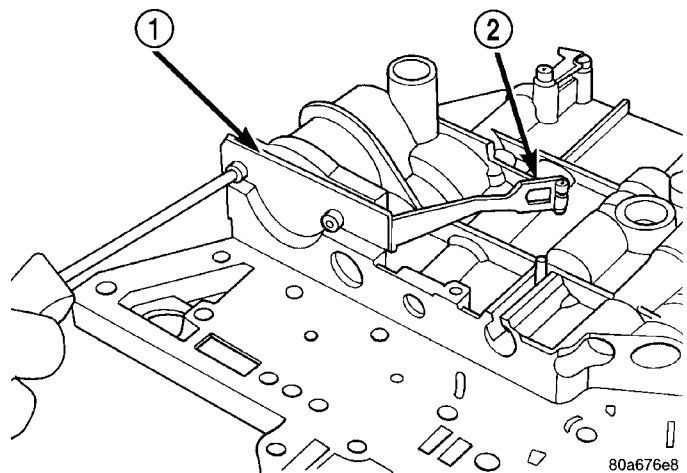

Fig. 320 2/4 Accumulator Retaining Plate
- (4) Remove 2/4 Accumulator Retaining Plate (Fig. 320).